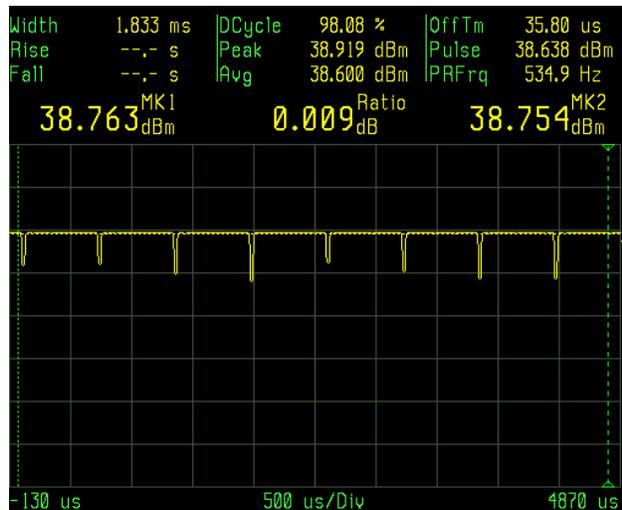

Figure 1: GSM Waveform with All Time Slots Open
**Figure 1** is an example of a GSM waveform, a common TDMA signal, as captured on a Boonton 4500B. In that picture, all 8 slots are transmitting information, so the signal appears to be operating close to continuous (>96% duty cycle). A true average power measurement in this case would be reading slightly lower than the power of the radio, because of the transition time between pulses.